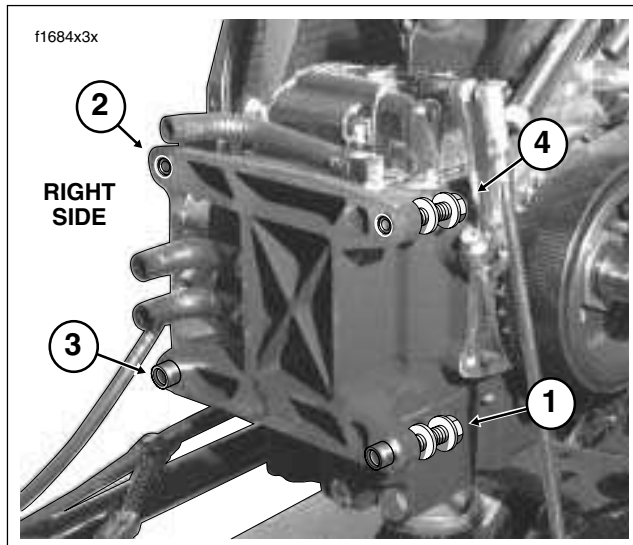

Figure 3-17. Transmission Housing to Crankcase Torque Sequence
- c. Tighten the four transmission housing to crankcase bolts to 15 ft-lbs (20.3 Nm) in the sequence shown in Figure 3-17.